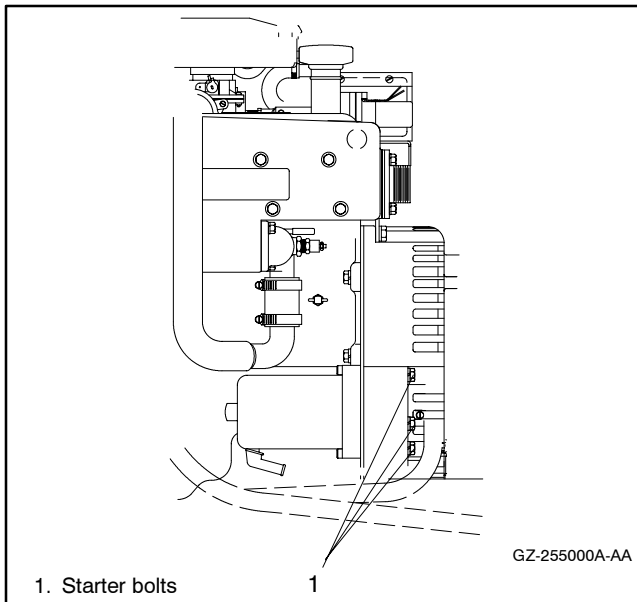

Figure 6-19 Engine Starter
16. Remove three bolts and lock washers securing starter to adapter. See Figure 6-19.